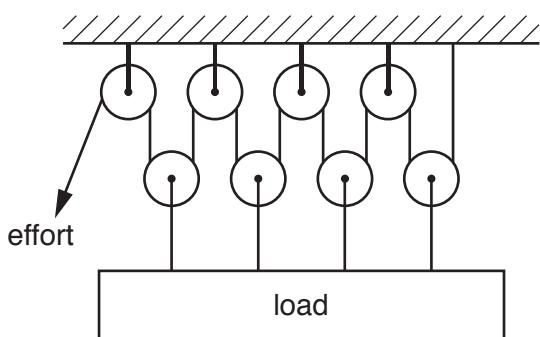

Fig. 15
- (e) Fig. 15 shows a compound pulley system.